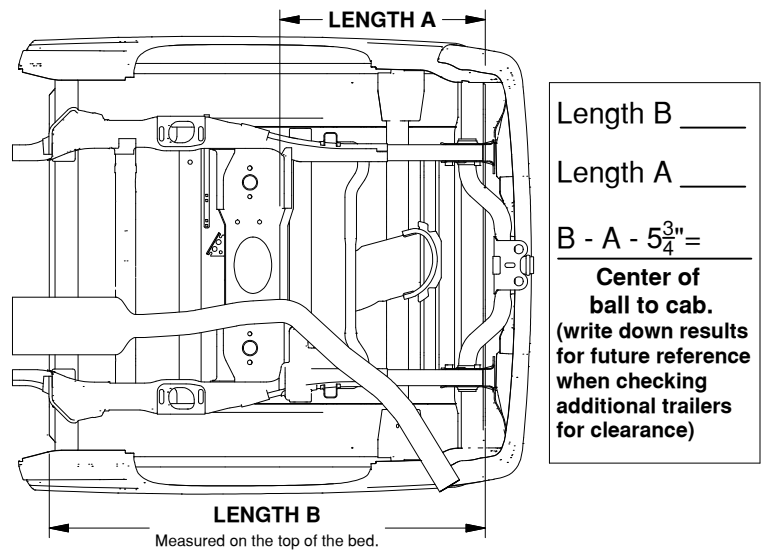
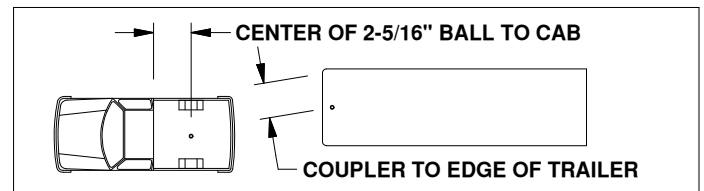

Figure A2: View of bottom of truck. (3/4 ton truck shown)
Figure A3: Truck and trailer diagram.
1. **Determine cab clearance.** Under the truck bed, measure from the rear most vertical face of the C-channel frame cross member (over the axle) to the end of the bed, see Figure A2, Length A. Next, inside the bed, measure the length of the bed from the rear edge to the front, see Figure A2, Length B. Subtract the cross member measurement (Length A) from the bed measurement (Length B). Then subtract an additional 5-3/4" inches. This will give you the measurement from the center of the 2-5/16" ball location to the cab. Measure the distance from the center of the trailer's coupler to the farthest forward corner point of the trailer. Compare this distance to the measurement from the center of the 2-5/16" ball location to the cab. These measurements will allow you to see how much clearance you will have between the cab and the trailer while towing and turning, see Figure A3.